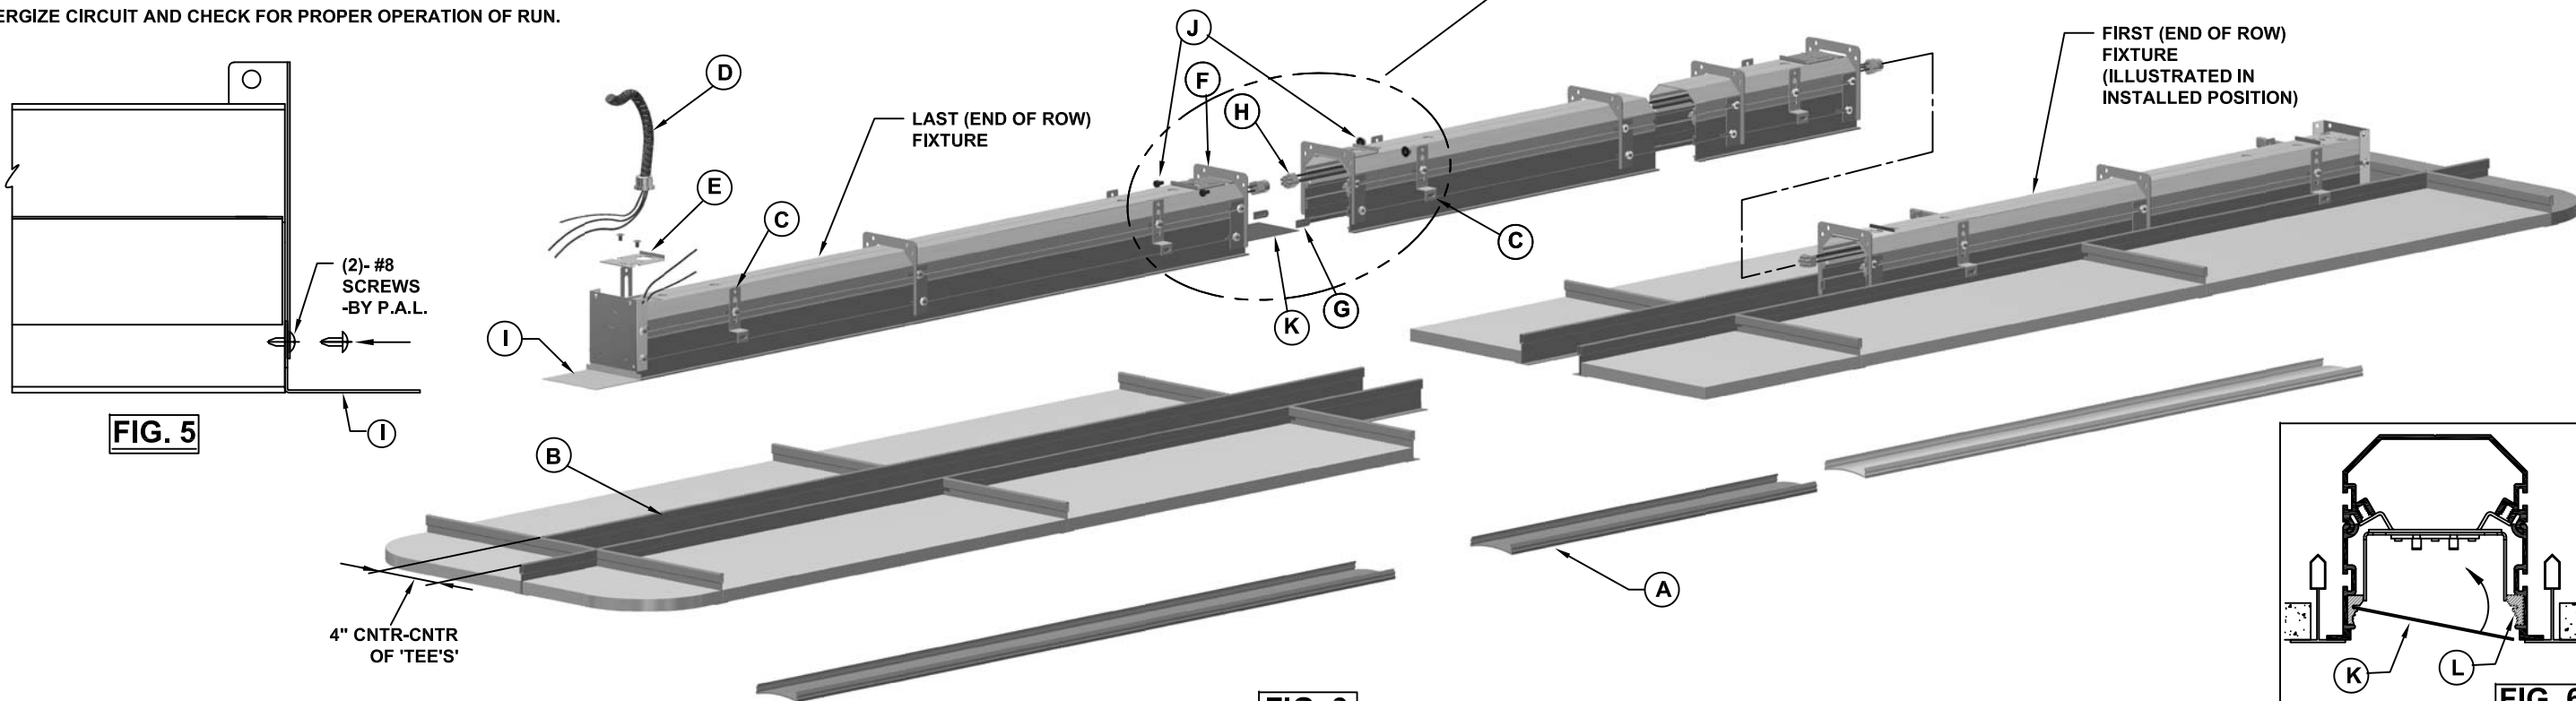

FIG. 3
REMOVE ACCESS PLATE (E) AT DESIGNATED FEED LOCATION AND PULL FIXTURE LEADS OUT THROUGH OPENING. REMOVE KNOCK-OUT FROM ACCESS PLATE AND INSTALL CONDUIT FEED CONNECTOR (D) TO ACCESS PLATE. ATTACH GROUND WIRE TO INSIDE OF ACCESS PLATE AND MAKE OTHER WIRE CONNECTIONS MAINTAINING COLOR CODING OF WIRES. PUSH EXCESS WIRE INTO FIXTURE AND SECURE ACCESS PLATE TO HOUSING INSURING THAT WIRES ARE NOT PINCHED BETWEEN FIXTURE AND ACCESS PLATE. (REF. FIG.3)